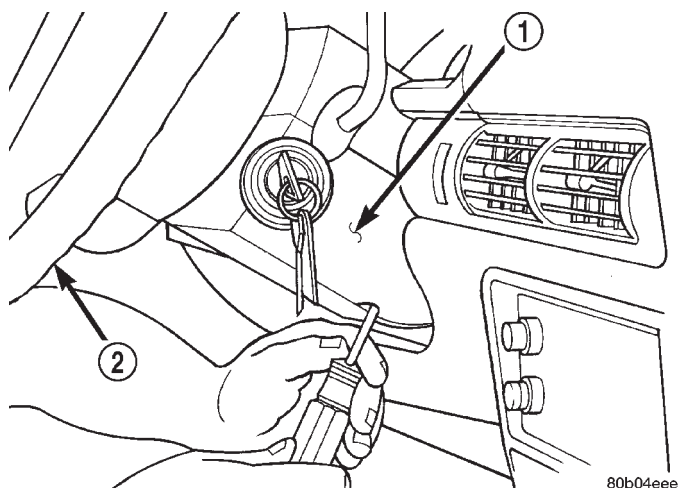

Fig. 42 Lower Column Cover Screw Removal/Installation
(3) Remove column cover screws (Fig. 42).